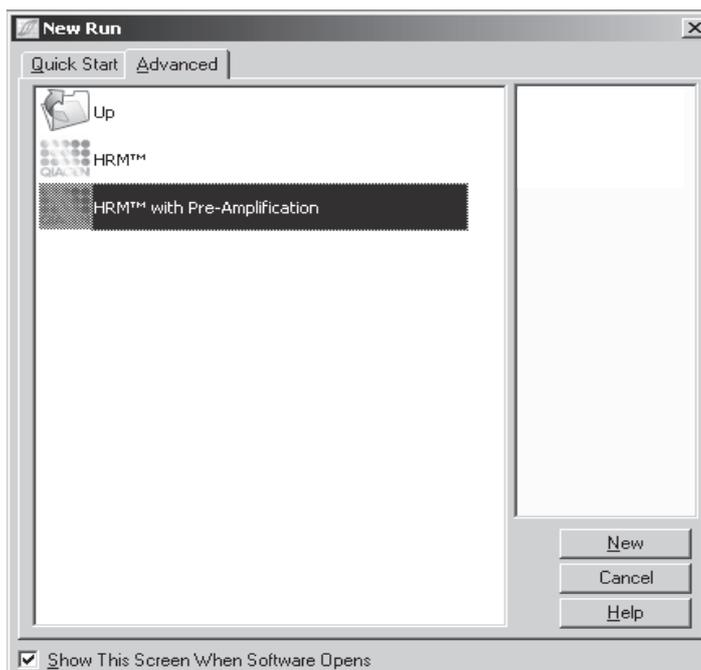

Figure 4. Choosing the protocol file.
2. **Open the ready-made protocol file “Rotor-Gene Type-it HRM Discovery Kit.ret” by double-clicking on it. Alternatively, open the Rotor-Gene Q software and select the “HRM” folder in the advanced tab of the wizard. Choose the protocol folder entitled “HRM with Pre-Amplification” and click on “New” (Figure 4).**